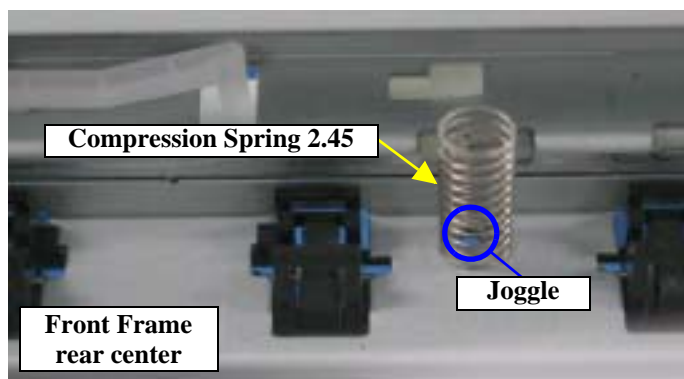

Figure 4-43. Reinstalling the Upper Housing Mounting Plate
- When reinstalling the Upper Housing Mounting Plate, insert the Compression Spring 2.45 into the joggle in the center of the Paper Eject Unit. Refer to Figure 4-43, "Reinstalling the Upper Housing Mounting Plate".